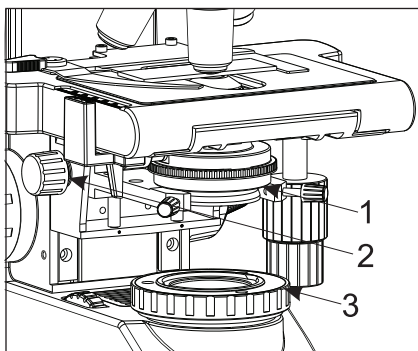

Fig. 30
The Koehler mount has the floating diaphragm mount (fig. 30,3). With this the Koehler can be centered wrt to the condenser.
1. Rotate the condenser height adjustment knob (2) to move the condenser to the highest or desired position (fig. 30).
2. The aperture iris diaphragm ring (1) has an objective magnification scale (4x, 10x, 40x, 100x). Slide the diaphragm lever left right to achieve the desired illumination level (fig.30).